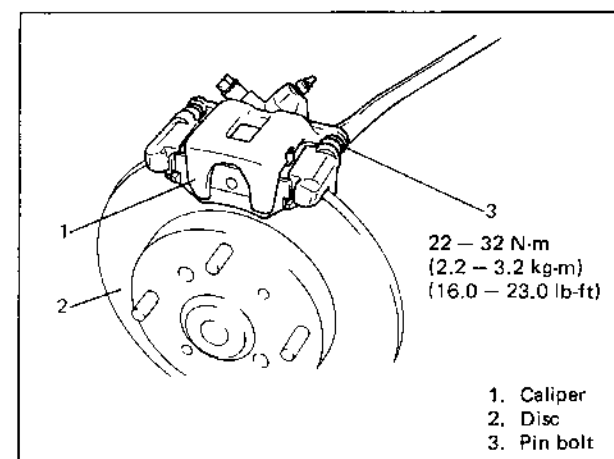

Fig. 5-71
- 3) Install caliper and torque caliper pin bolts to specification. (Refer to Fig. 5-71.)